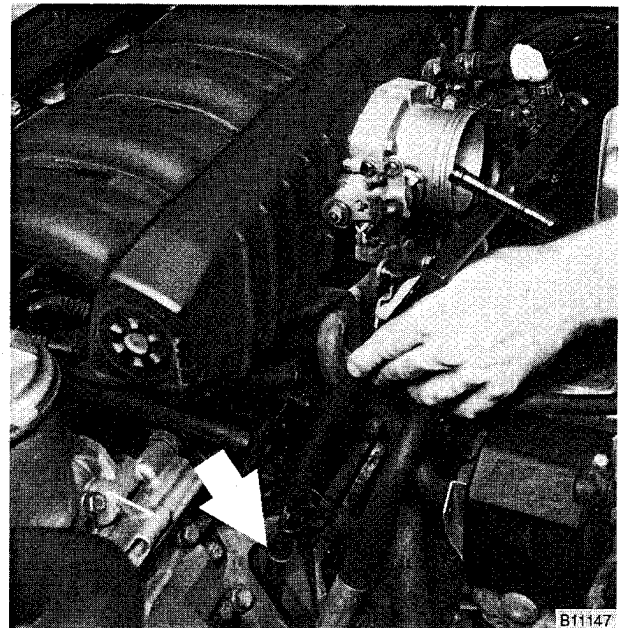

Fig. 8. Oil dipstick guide tube being removed. Use a new O-ring (**arrow**) during installation.
13. Remove oil dipstick guide tube mounting bolt and remove tube. See Fig. 8.